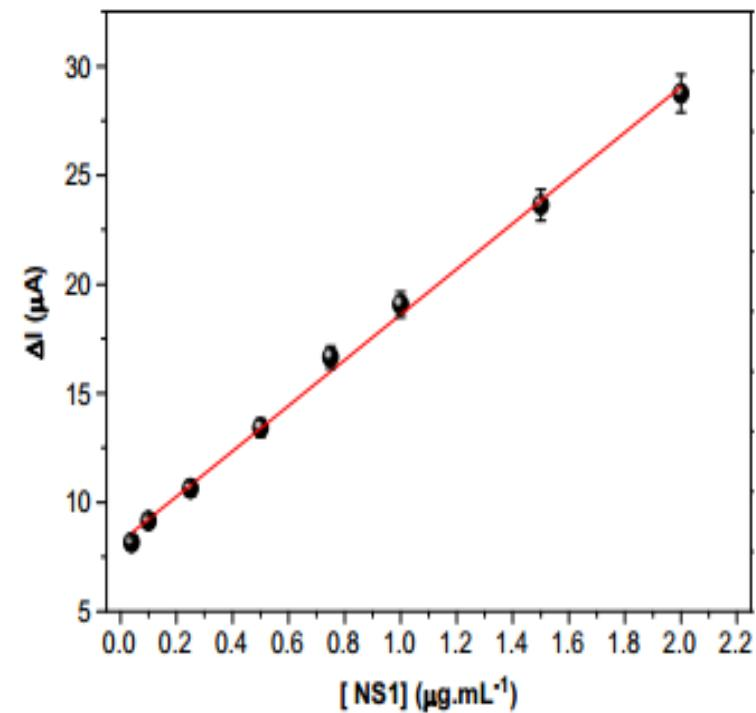

Fig. 5. Calibration curve of the immunosensor for NS1 protein of dengue virus.
Fig. 5. Schematic representation of the assembly of the biosensor (A) and its electrochemically generated signals by CV (B), SWV (C) and EIS (D) after MWNTs-COOH deposition (---), anti-miRNA binding (***), and l-asparagine binding (- - -).